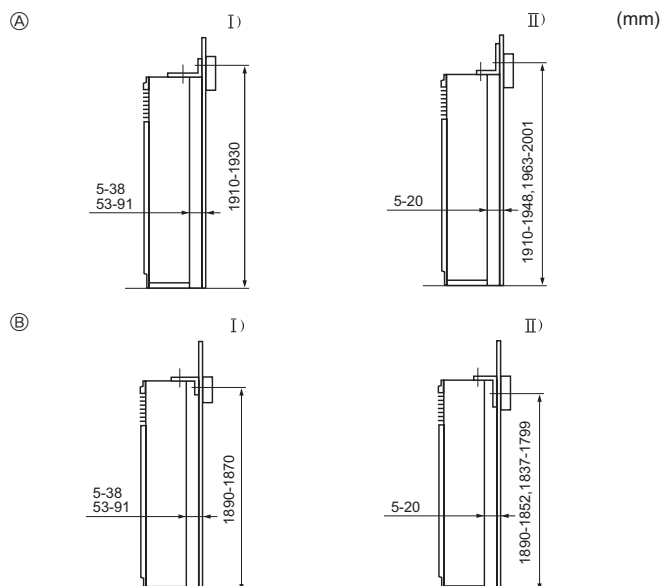

Fig. 3-3
- ① Tip-over prevention bracket
The tip-over prevention bracket ① is set on the top surface of the unit. Remove the tapping screws ②, and then reinstall the bracket, as shown in the illustration. For the proper installation distances, see Fig. 3-3.
- ③ Screw
- ④ Remove the screw ③ and then pull the grill forward to remove it.
3.3. Mounting the tip-over prevention bracket (Fig. 3-3)